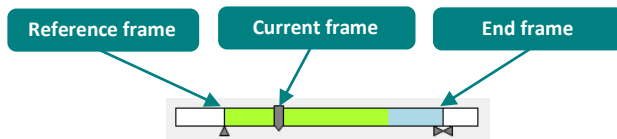

Figure 8: Project Seeker.
- Project Seeker (Figure 8)** – Seeks in recorded data. Changing the position of the current frame updates the image(s) displayed in camera window(s) and causes highlighting of measured values in graphs. The position of reference frame and end frame are shown as vertical lines with arrow pointers. The green range shows quantity of computed data. The light-blue range, which